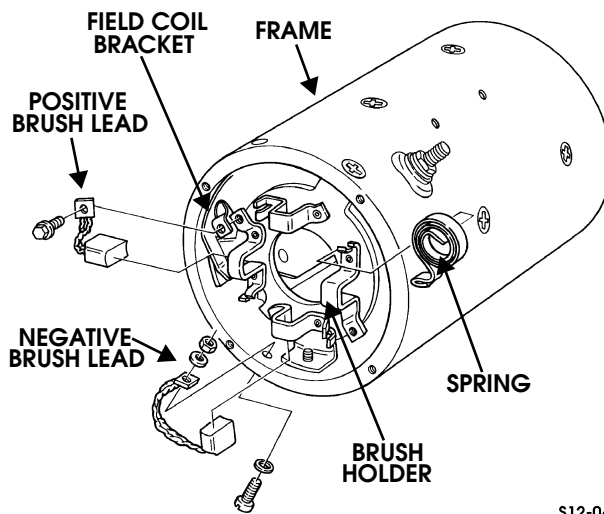

Figure 12-60: Brush and Holder Removal/Installation
19. Remove nuts, lockwashers, screws, copper washers, and negative brush leads from frame. Remove brushes from brush holders (Figure 12-60).
6. Install negative brushes and positive brushes in brush holders and retain with four springs (Figure 12-60).